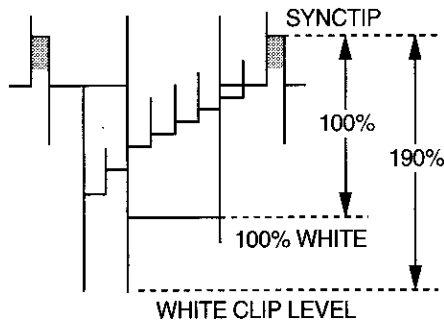

Figure 5-5.
1. Connect an oscilloscope to pin (78) of IC201 and GND.
3. Make sure that the overshoot of the video signal is clipped at 190% as shown in Figure 5-5.